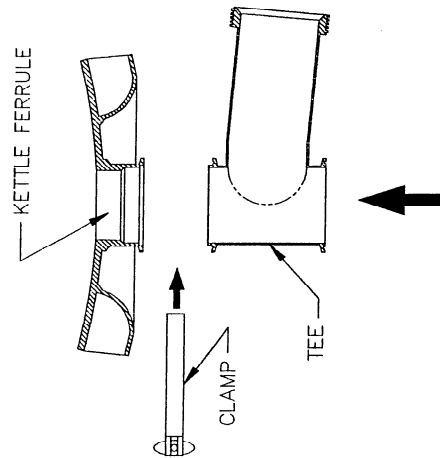

FIGURE 2
4. ATTACH THE TEE TO THE KETTLE FERRULE WITH CLAMP AS SHOWN IN FIGURE 2.